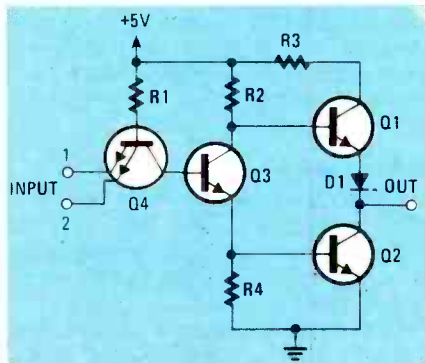

FIG. 3—TOTEM-POLE ARRANGEMENT is used in the internal design of most TTL IC's.
4. USE BYPASS CAPACITORS. The internal design of most regular TTL circuits uses the totem-pole output arrangement shown in Fig. 3. As the TTL gate switches from one state to the other, there is a short time period when both internal output transistors, Q1 and Q2, will be ON. When that occurs, there is a direct low-impedance path between the supply voltage and ground. The result can be 10-to-